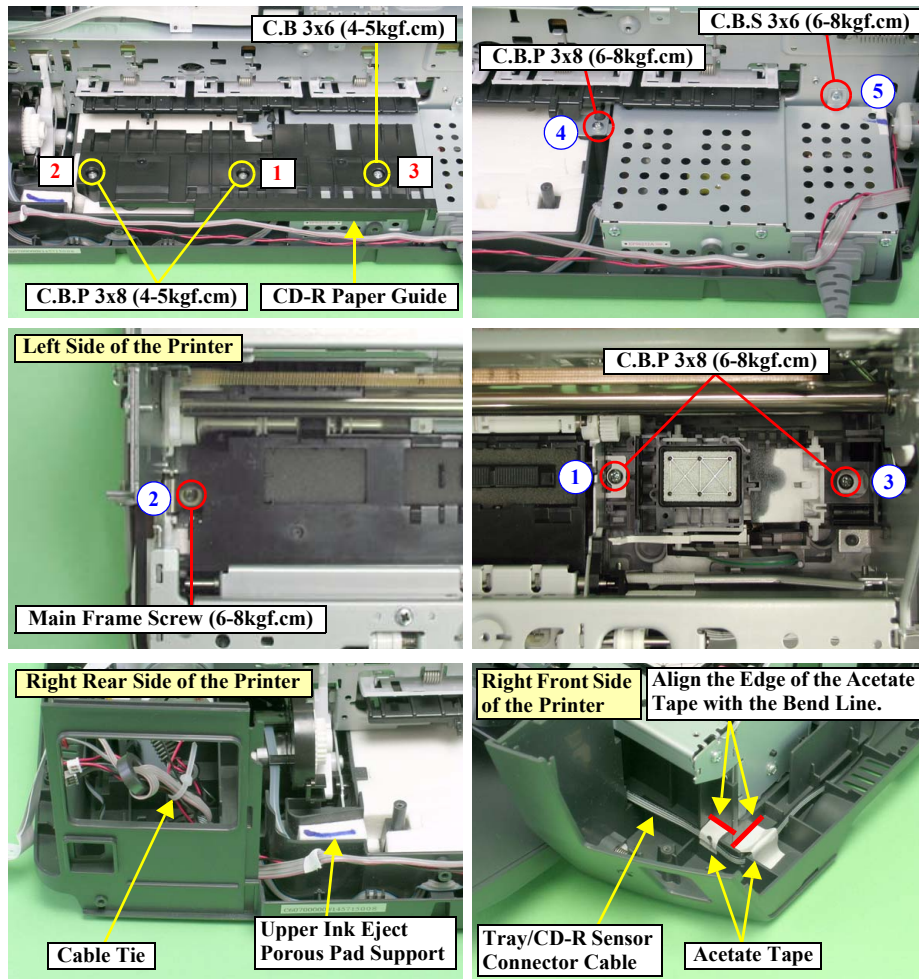

Figure 2-55. Removing the Printer Mechanism (1)
- Tighten the screws to secure the Printer Mechanism and the CD-R Paper Guide in the order shown in Figure 2-55.